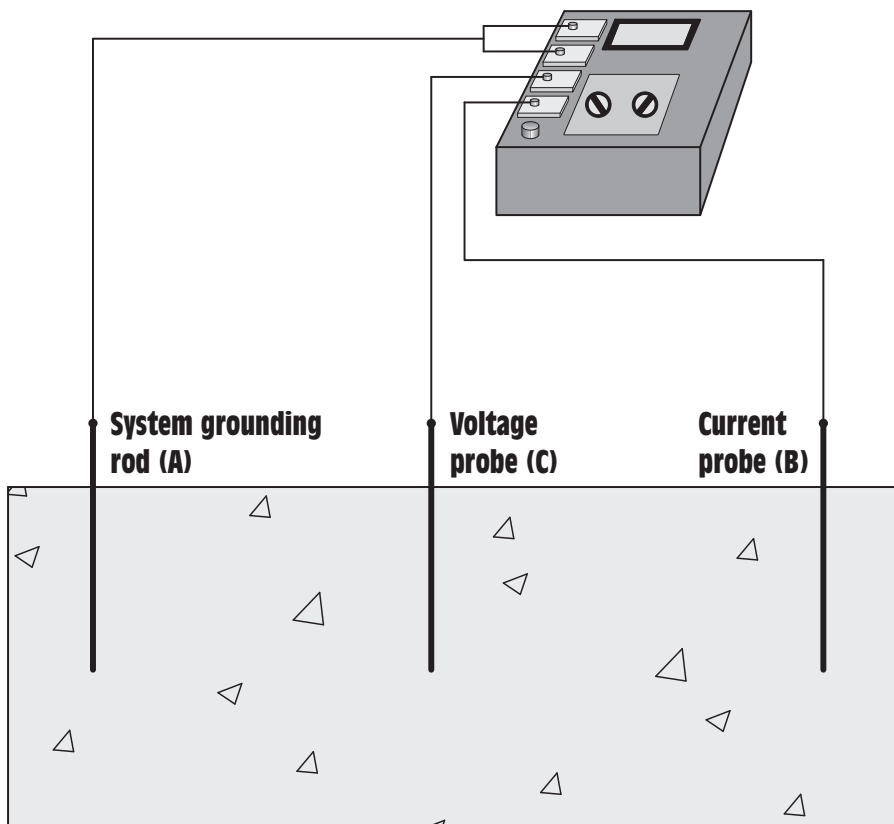

Figure 14-39 The three-point fall-of-potential test.
3. A voltage probe that is inserted at various distances between the grounding rod and the current probe (C). The voltage probe is placed in a straight line between the grounding rod and the current probe.
Ideally, the current probe (B) should be placed at a distance that is at least 10 times the length of the grounding rod (A), *Figure 14-39*. If the grounding rod is 8 feet in length, the current probe should be placed at least 80 feet from the grounding rod.